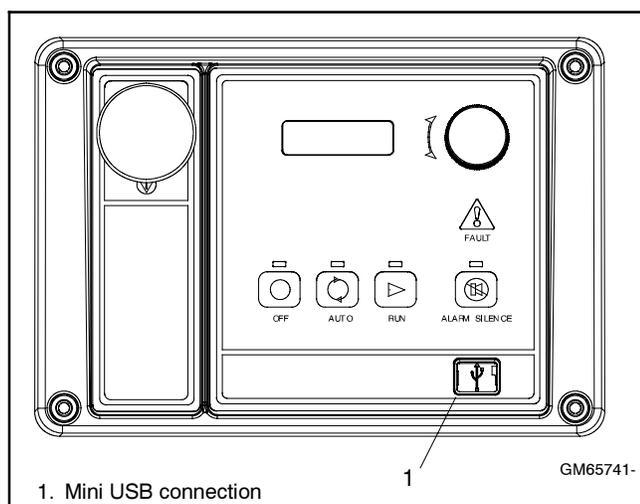

Figure 1 Decision-Maker® 3000 Controller
The controller service replacement kit is available to replace a non-functional controller. Use the following procedure to install the replacement controller. See Figure 1 for typical controller identification. For features and operation of the controller, see the operation manual in the literature kit.
- 6.1 Connect the PC to the Decision-Maker® 3000 controller using a USB cable. See Figure 1 for the location of the USB connection port.